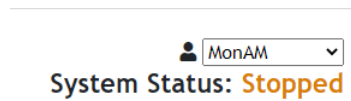

Figure 2: BUMES FMC Overview, Change User
2. Locate the user drop down menu, shown in detail in Figure 2. Select the user corresponding to your lab section. The current user will appear at the top right of the interface.